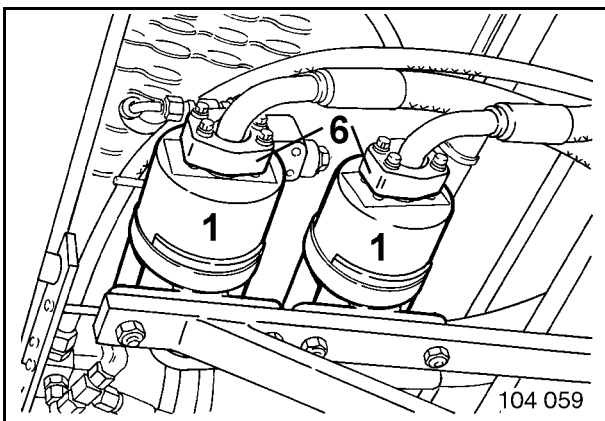

Fig. 3-88:
- Loosen flange (6, Fig. 3-88:).
- Withdraw filter element (2) together with sealing ring (3) and retaining ring (4) from housing (1).
- Clean filter element (2) with white spirit or paraffin oil.
- Insert filter element into filter housing (1) and refit with new, lightly oiled sealing ring (10) and a new retaining ring (4).
- Screw cover (5) into housing (1).
- Refit flange (6, Fig. 3-88:) to housing (1).